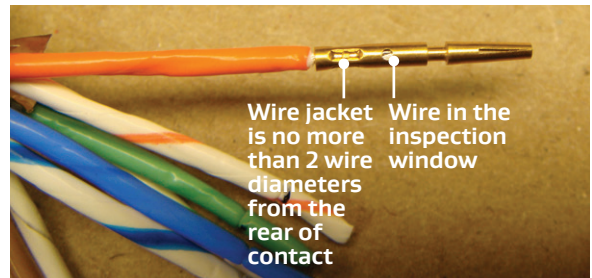

Figure 67: Crimping the contact
16. Crimp the contact onto the primary wire using the M22520/2-01 crimper. Set the K1999 Die and selector to 4 (Figure 67). The primary wire should be visible in the inspection window and the wire jacket should be no more than 2 wire diameters from the rear of the contact.